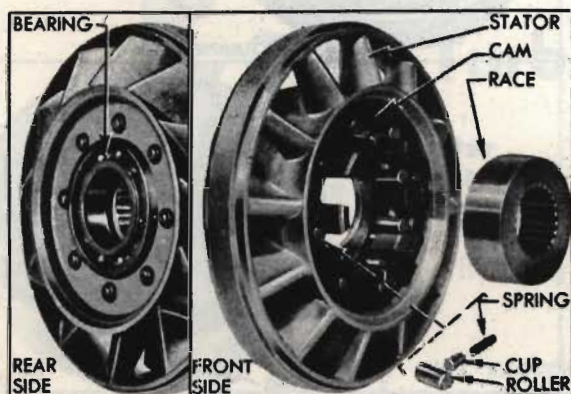

Fig. 29. Stator and free wheeling parts
5. Remove the ball bearing from the rear of converter stator. Force the free wheeling roller race from the free wheeling cam in front side of stator. Remove rollers springs and cups from the cam (Fig. 29).
2. Install the springs and cups and the free wheeling roller race in the cam on the front side of the stator. Using a thin narrow blade, depress the springs and install the free wheeling rollers (Figs. 29 and 34).
3. Install the ball bearing in rear side of stator. The bearing must be fully seated in the counterbore recess and outer race must be free to rotate (Fig. 29).